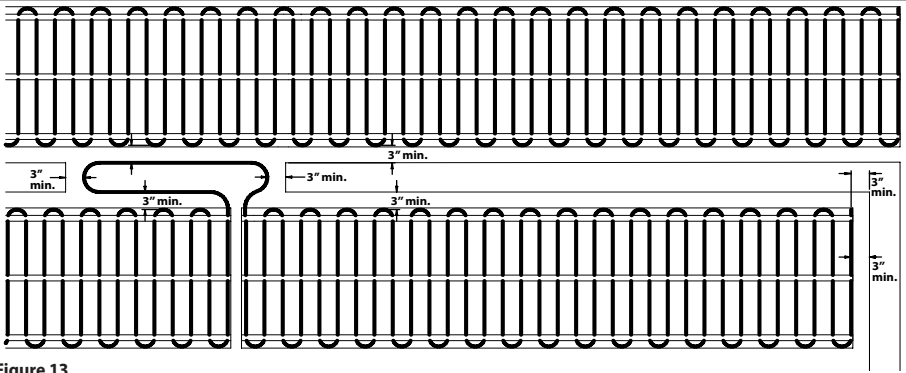

Figure 13
- When two adjacent rooms are heated by the heating cable, it is recommended to cover the traffic area between these rooms to avoid cold spots. To do so, simply cut the mesh and remove the cable from the mesh over a certain length to cover the traffic area (figure 13). Use scissors to cut the mat, being very careful not to damage the cable and use the floor fasteners or stapler to secure both extremities of the mat onto the subfloor.